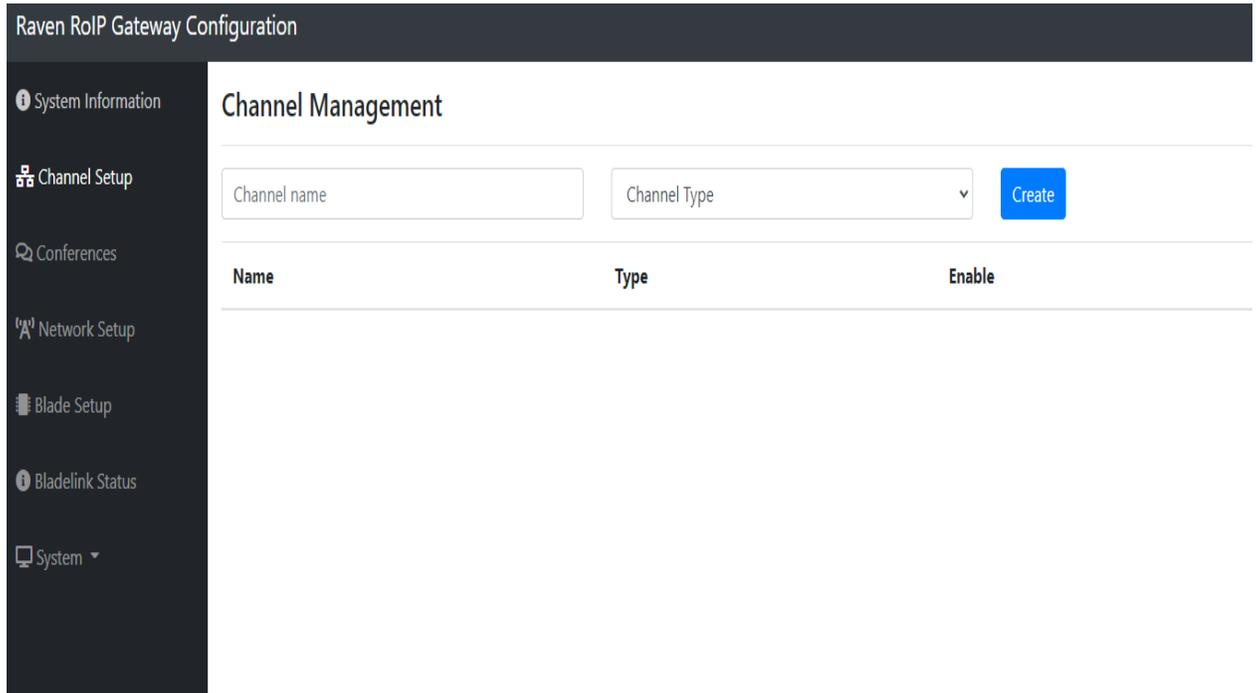

Figure 5-1: “Channel Setup” web interface.
1. Navigate to the “Channel Setup” page on the left side panel and it will look like Figure 5-1.